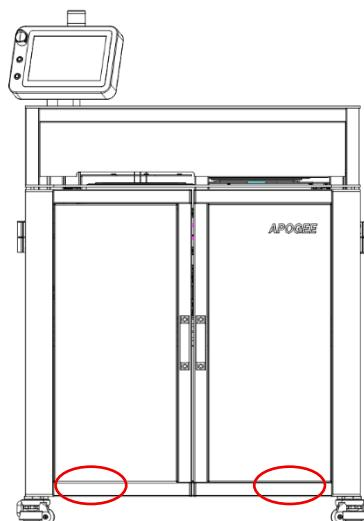

Figure 7 Fork Points
1. Carefully remove the sides from the crate. Lifting the unit from the crate base by forking at the points shown in Figure 7. Do not lift by any of the top covers or protrusions. Do not roll or turn the unit on its sides.